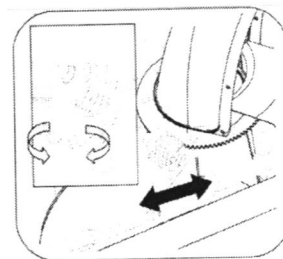

Figure30
2. Retightening the nuts See figure 30